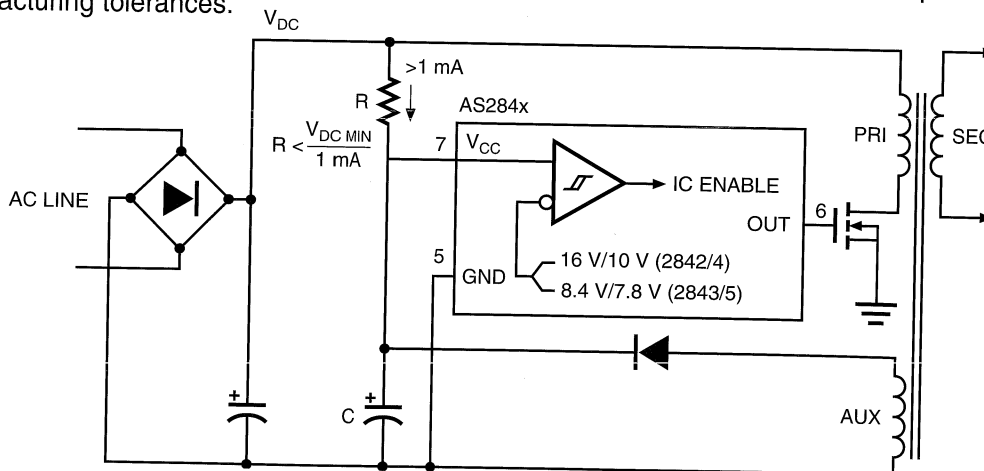

Figure 14. Bootstrap Circuit
The low quiescent current standby mode of the AS2842 allows “bootstrapping”—a technique used in off-line converters to start the IC from the rectified AC line voltage initially, after which power to the IC is provided by an auxiliary winding off the power supply’s main transformer. Figure 14 shows a typical bootstrap circuit where capacitor (C) is